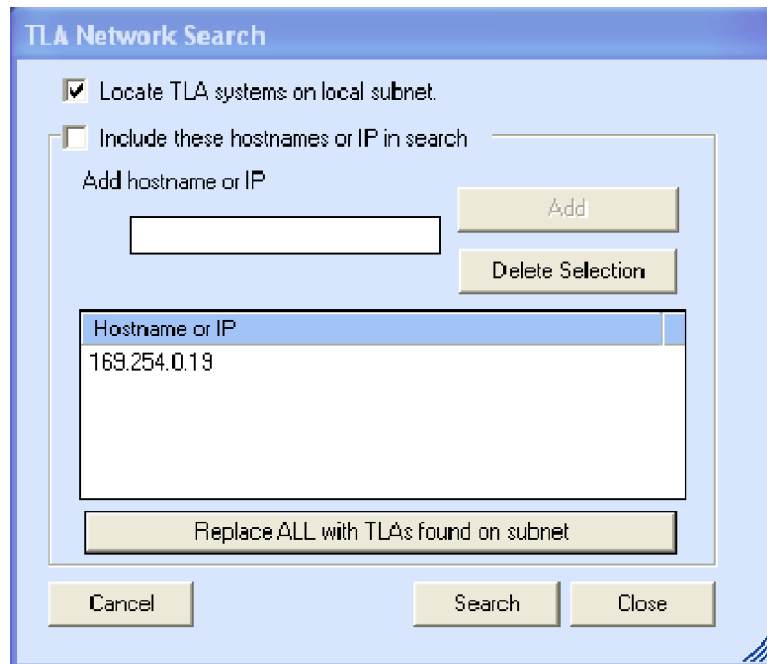

Figure 20: TLA Network Search dialog box
- Click the binoculars icon. The TLA Network Search dialog box appears. (See Figure 20.)